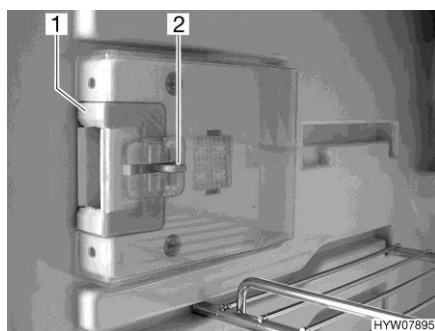
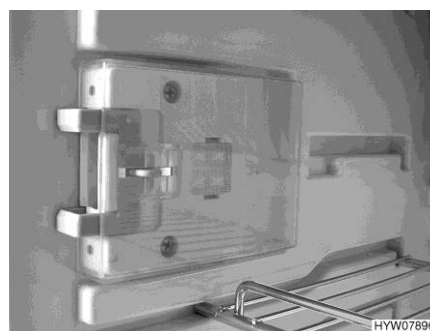

Fig. 189 Locking device (normal position)
Fig. 190 Locking device (ventilation position)
- Press down the unlocking device (Fig. 189,2).
- Push locking device (Fig. 189,1) forwards (Fig. 190).